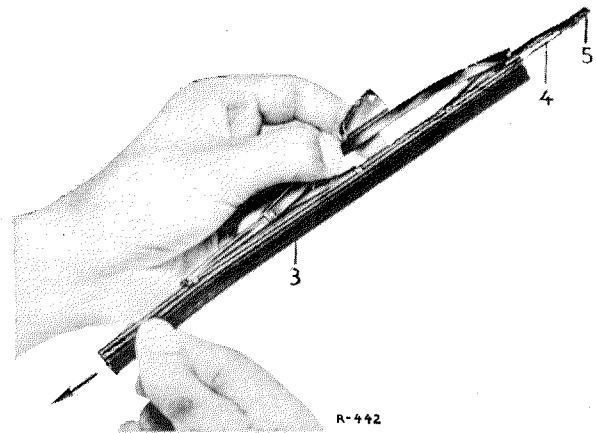

Fig. 82 — 8/1
2. Pull the rubber molding (3) out of the retaining spring (4) in the opposite direction to the clamp (5) (Fig. 82 — 8/1).